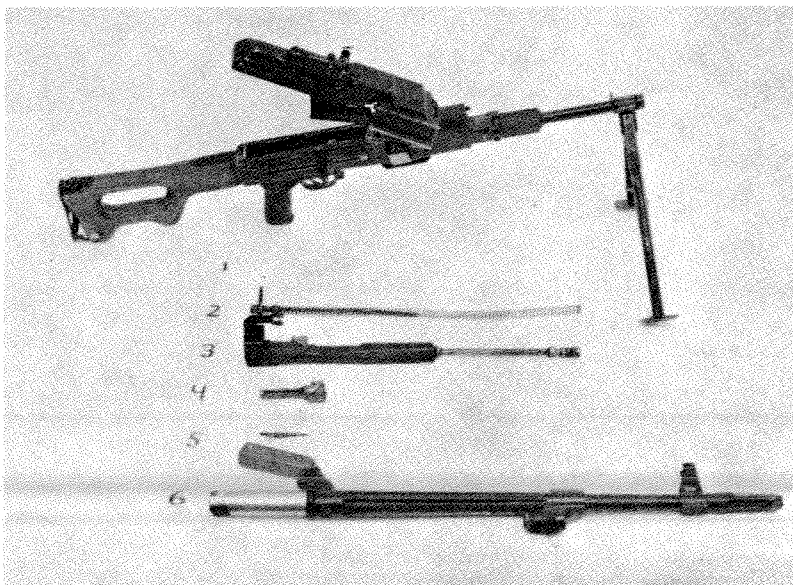

Figure 3-19. PKM machine gun completely disassembled for cleaning and inspection.
k. Illustrated on the next page is the order in which the weapon is prepared for cleaning/inspection (fig. 3-19).